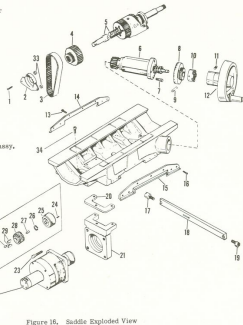
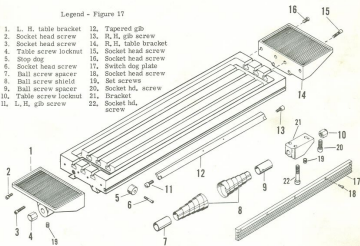

Figure 16, Saddle Exploded View
Figure 17. Removing Table
1. Take out the four socket head screws holding the flat gib (3) and guide plate spacer (2) on each side of the saddle.
3. Take a micrometer measurement of the two knee ways (1).
39. TAPERED GIB (figure 16)
40. ANGULAR HANDFEED SHAFT (figure 16).
42. REMOVING LONG FEED DRIVE BELT (figures 16 & 17)
1. Remove the two table screw locknuts (4 & 10, figure 17). Loosen set screws (19, fig. 17).
2. Compress the ball screw shields (8, figure 17) and hold them compressed with a piece of wire.
3. Remove the stop dog (5, figure 16) and the left table end bracket (1, figure 17) by removing the four cap screws (2 & 3, figure 17).
4. Slide the table to the right to expose the nut on the ball screw assembly (9, figure 16). It is good practice to support the extended end of the table.
5. Remove the ball screw shield (2), figure 17) and the ball screw spacer (7, figure 17).
All following reference numbers in this paragraph refer to figure 16.
43. REMOVING FLUID MOTOR AND CLUTCH (figure 16)
46. GIB (Figure 17)
Legend - Figure 17
47. TABLE (Figure 17)